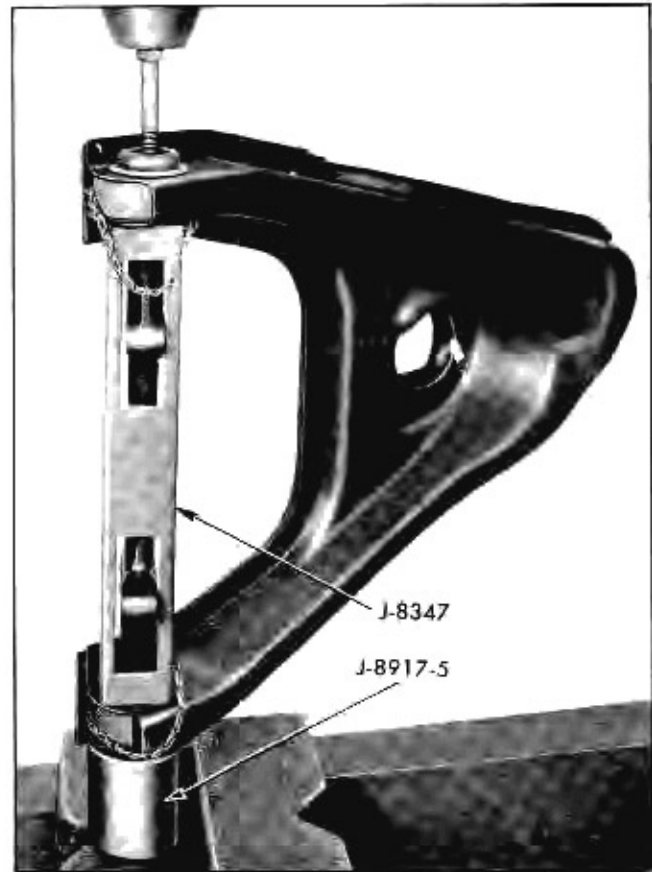

Fig. 3-34 Removing Cross Shaft and Bushings
3. Support control arm in a press on Tool J-8917-5 as shown in Fig. 3-34.